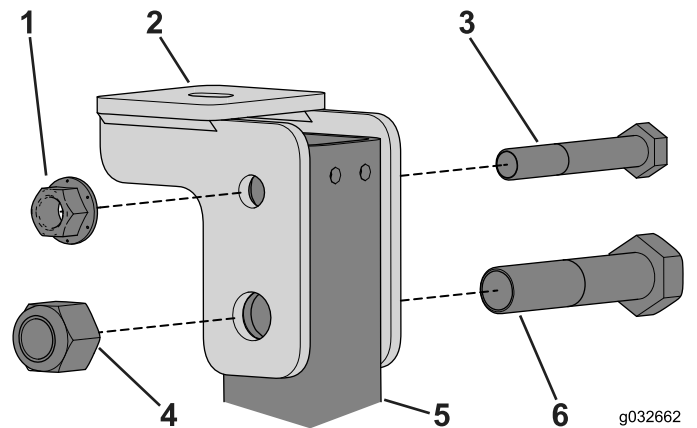

Figure 111
1. Remove the bolts securing the cab-mount bracket to the ROPS tube at the rear of the cab frame (Figure 111).